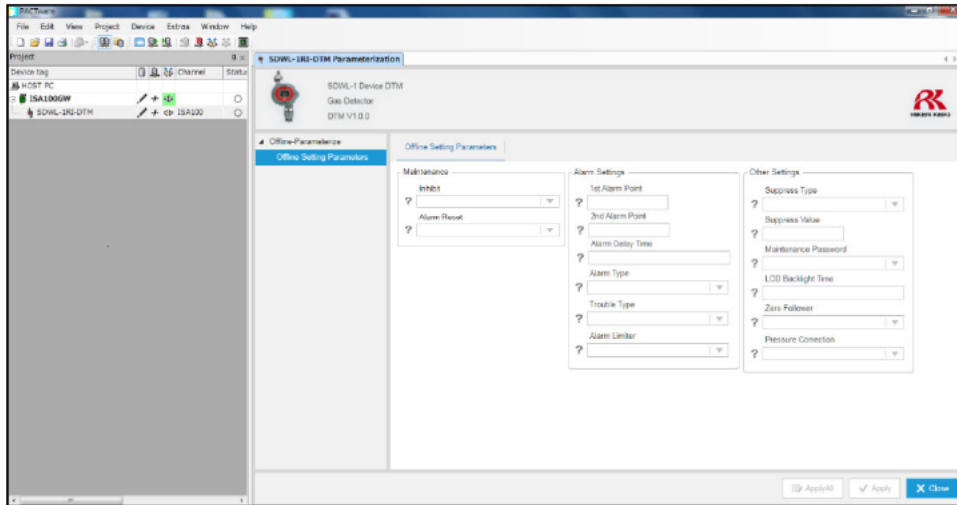

Figure 5-37 Offline Setting Parameters window
- ③ The window shown in Figure 5-37 below is displayed to allow offline parameter configuration.